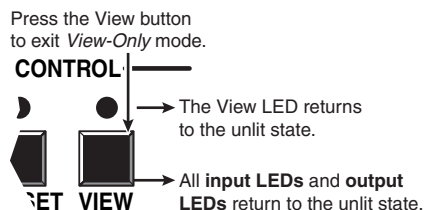

Figure 3-31 — Press the View button to exit View-only mode
6. Press and release the View button to exit *View-only* mode (figure 3-31).